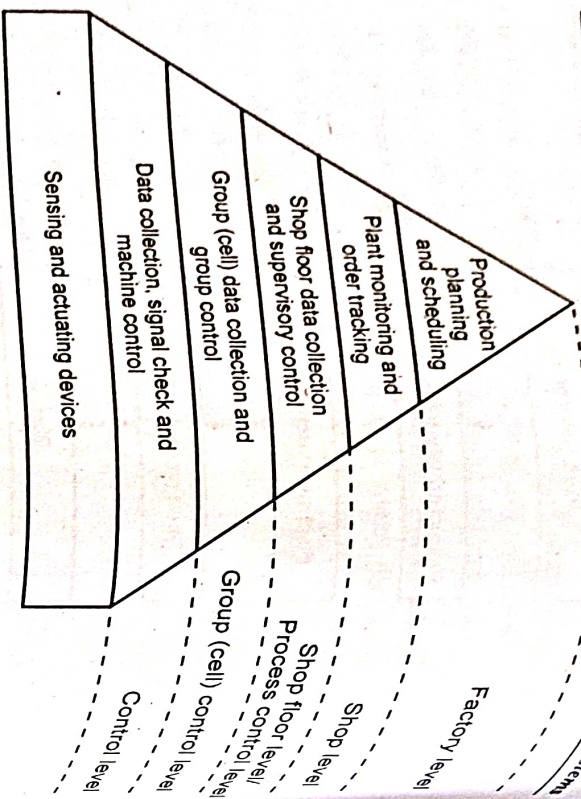

Fig. Q.20.1 Manufacturing automation system hierarchy
• Fig. Q.20.1 shows the manufacturing automation system hierarchy.
• The functionalities of the levels shown in the Fig. Q.20.1 can be explained as follows :